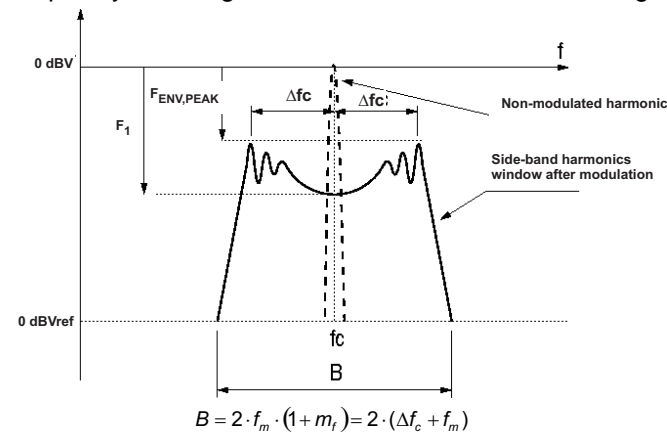
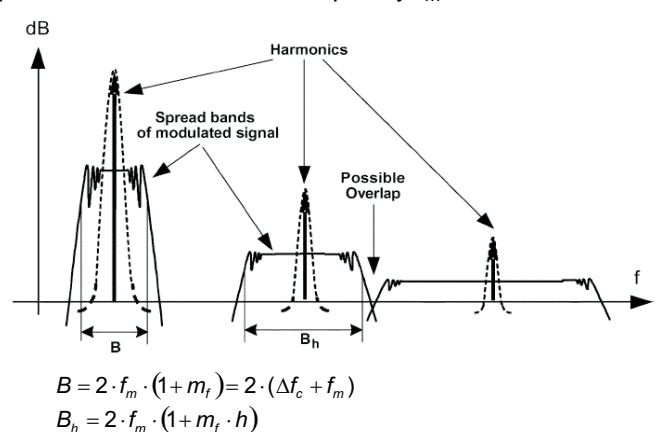

Figure 15. Spectrum of a Frequency Modulated Sin. Wave with Sinusoidal Variation in Time
Figure 16. Spread Bands of Harmonics in Modulated Square Signals ⁽¹⁾
(1) Spectrum illustrations and formulae (Figure 15 and Figure 16) copyright IEEE TRANSACTIONS ON ELECTROMAGNETIC COMPATIBILITY, VOL. 47, NO.3, AUGUST 2005.